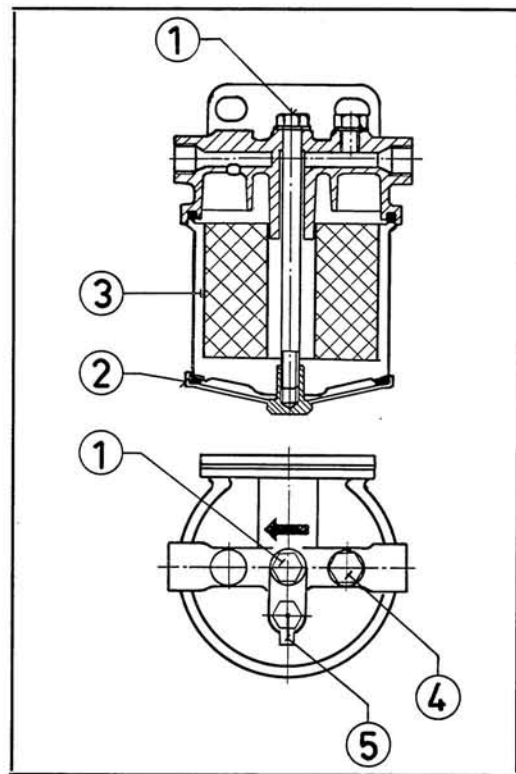

Fig. 13 Fuel filter
The fuel filter insert is not to be cleaned, the only servicing being replacement. This is done by releasing the centre screw 1 (Fig. 13), removing the cover base (2) and replacing the insert (3). The nipple bolt (2) connects the return fuel line to the tank and it also functions as a bleed screw. The leak-off oil line from the injectors is fixed to the filter by means of the nipple bolt (4). Normally, the filter insert should be replaced after every 300 hours of operation.